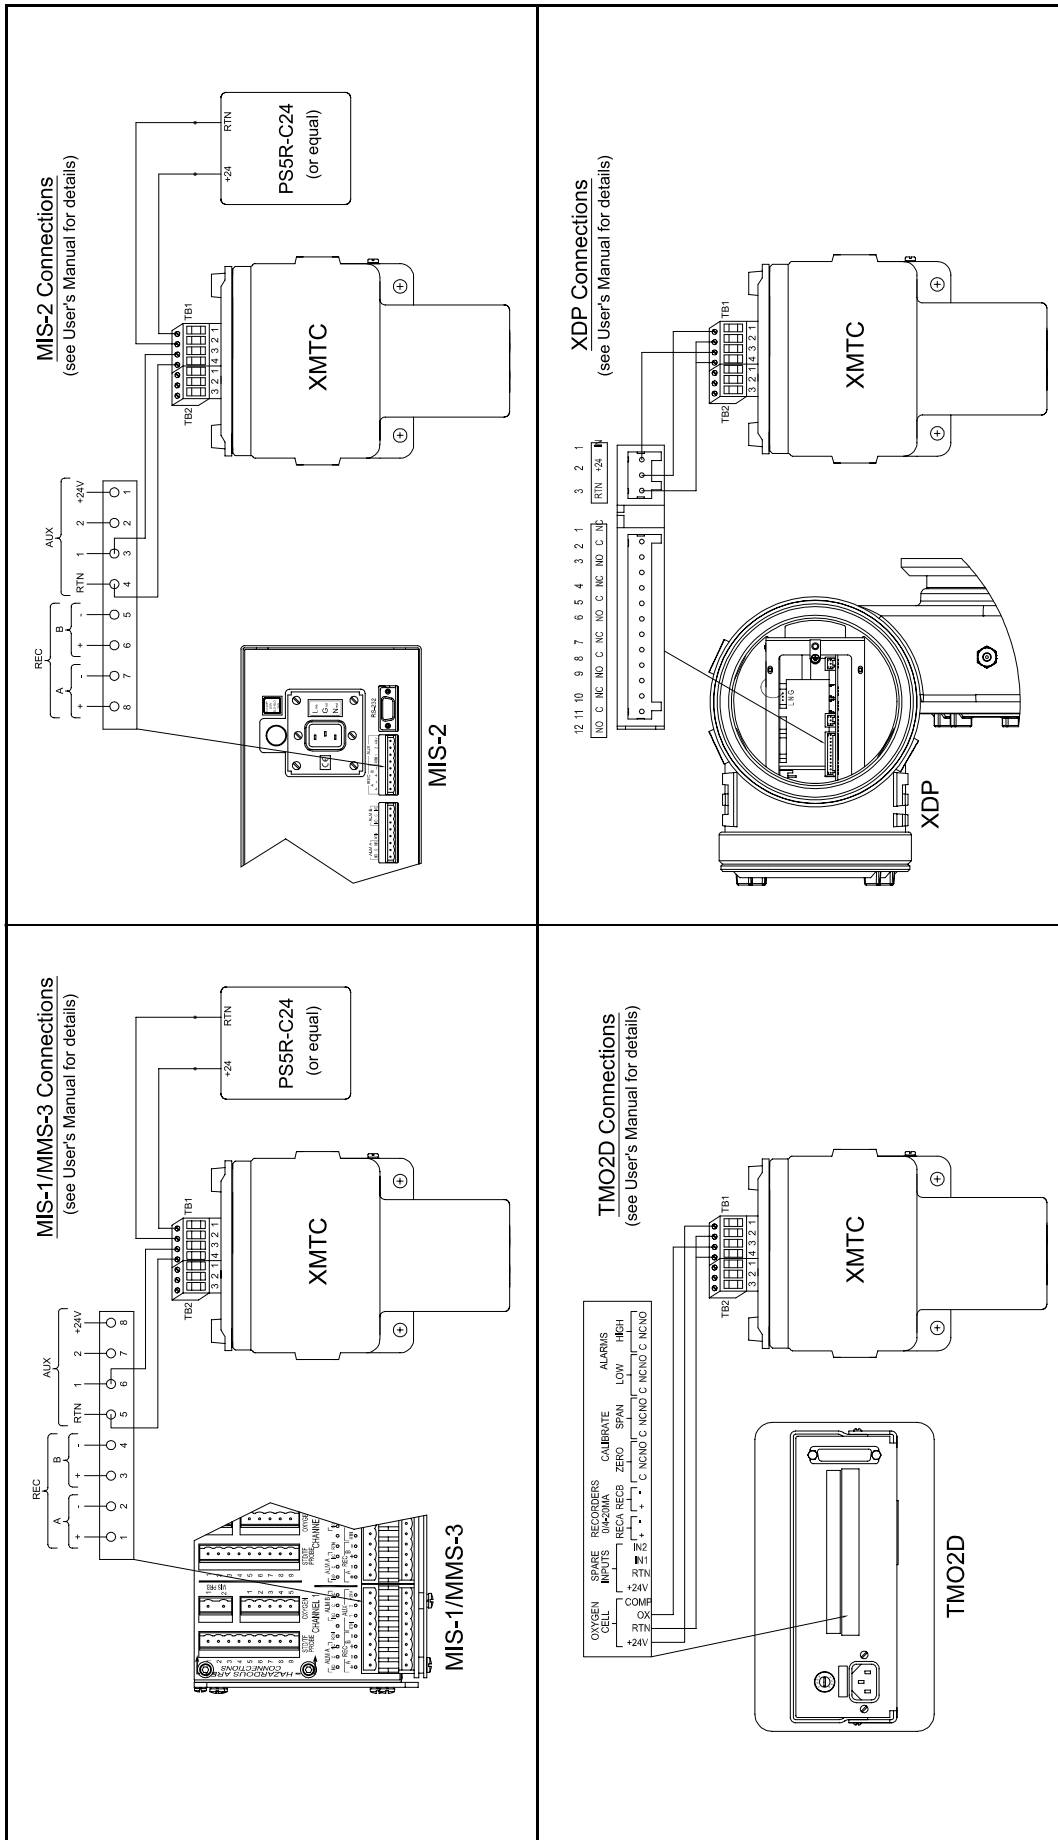

Figure 72: XMTc interconnection diagrams
- *Figure 72: XMTC interconnection diagrams on page 56*